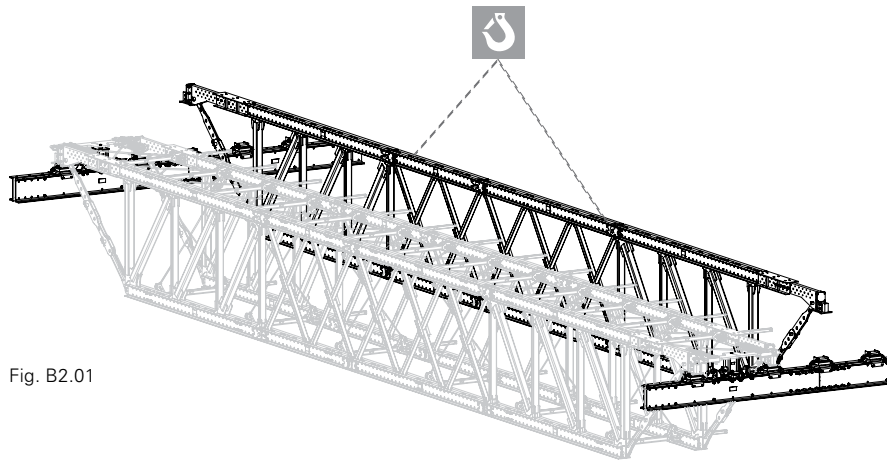

Fig. B2.01
4. Crane in the single truss and position above the Main Beams (35). (Fig. B2.01)